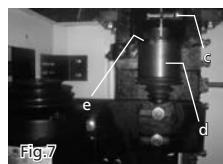

Fig.7
1. Remove the bolt (Fig.7-C) from the spindle cartridge.
2. Insert a shim into the gap of spindle cartridge, thread the bolt (C) from the left of spindle cartridge, till easily remove the spindle (D) down from spindle cartridge.